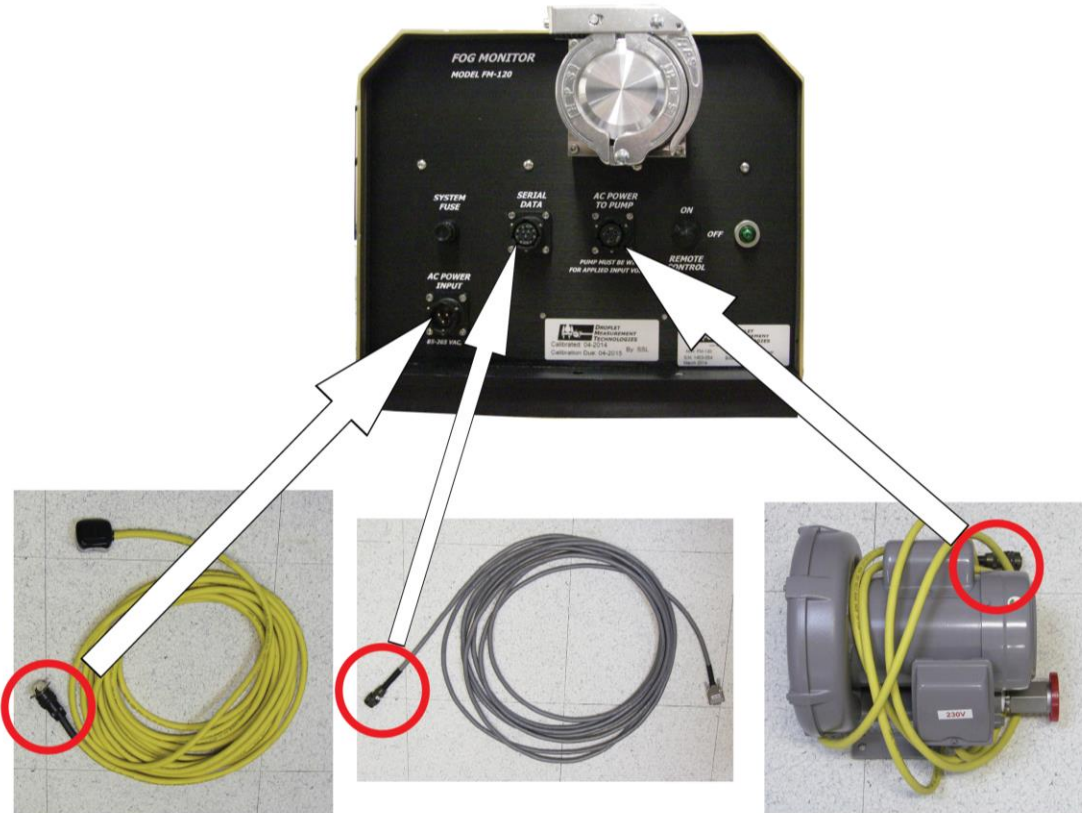

Figure 10: Connecting the Serial Data Cable, Power Cable, and Pump Power Cable to the Particle Sensor
3. Connect the FM-120 power cable to the **AC POWER INPUT** on the particle sensor (Figure 10).
4. Connect the data cable to the **SERIAL DATA** receptacle (Figure 10).
5. Connect the pump power cable to the **AC POWER TO PUMP** receptacle (Figure 10).